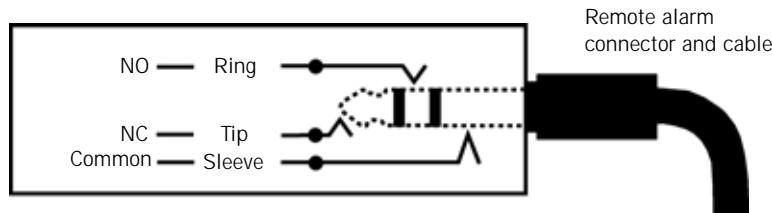

Figure 3-4: Remote Alarm (Nurse Call) Connector
The ventilator signals an alarm condition using normally open (NO) or normally closed (NC) relay contacts, where the deenergized state indicates an active alarm. The remote alarm port is a standard 1/4-in. phone jack (ring, tip, sleeve) connector (Figure 3-4).